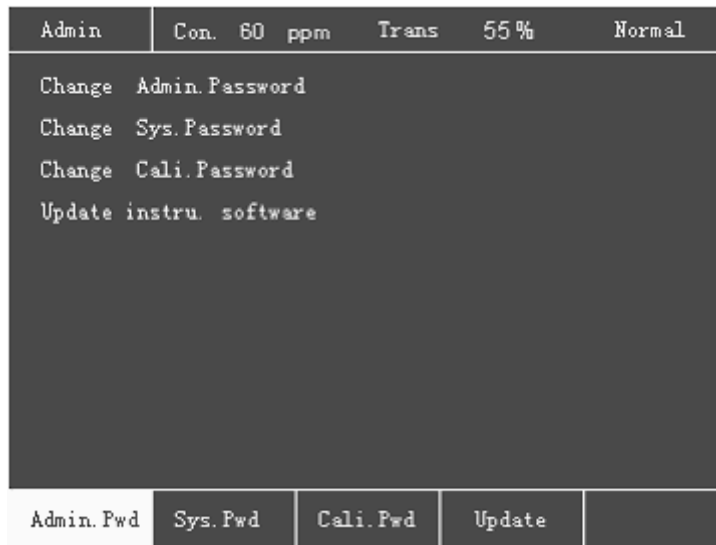

Figure 4.14 Admin. Menu
- **Admin.:** Press “SET”, the system asks for Pwd. If the Pwd is entered correctly, the system enters the **Admin.** menu. (Figure 4.14).
- Change Admin. Pwd: change the password to **Admin.** menu. (Figure 4.14).